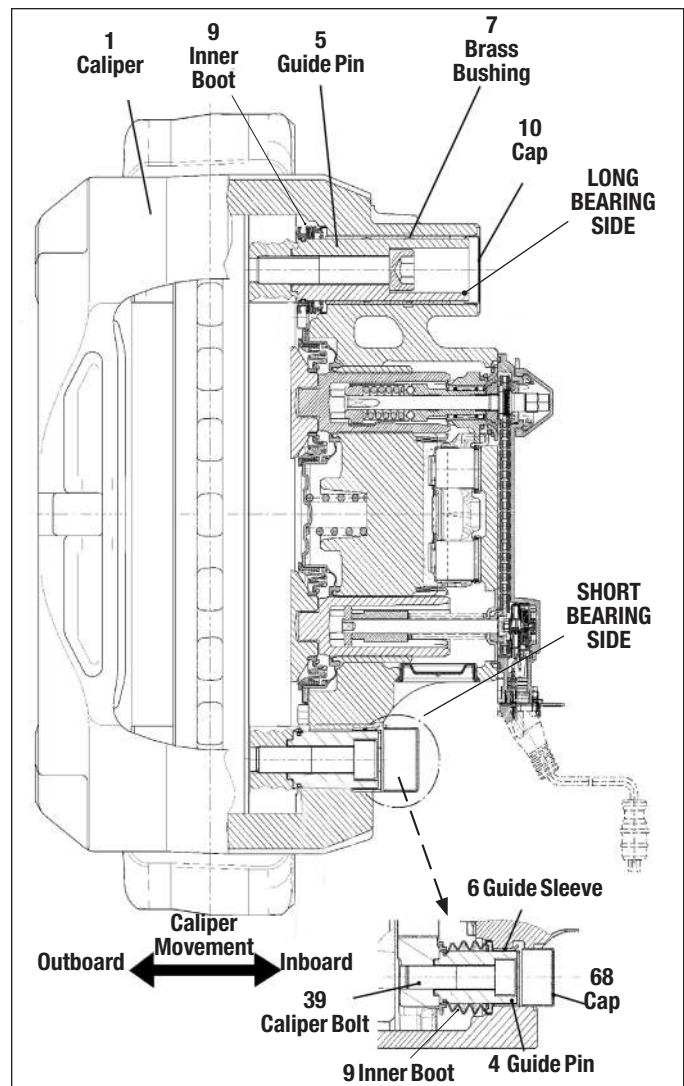
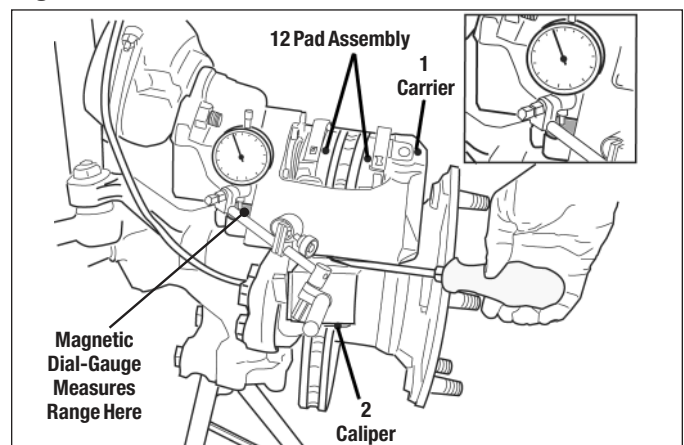

Figure 26 – Guide Pins
Figure 27 – Magnetic Dial-Gauge In Use
4.5.2 See Figures 26 and 27. With the wheel removed, remove the pad retainer (11). Temporarily replace the pads with two new pads (12). Attach a magnetic dial-gauge holder to the carrier (2) on the short bearing side of the caliper (1). Use the measuring point on the caliper (1) – see the callout in Figure 27. Press the caliper in the direction of the carrier (2) and set the dial-gauge to zero.
4.5.3 Place a suitable tool (e.g. a large flat-blade screwdriver) between the carrier (2) and the caliper (1) and use light hand force to move the caliper away from the carrier, until the movement stops. Read the maximum value on the dial-gauge. See Figure 27.